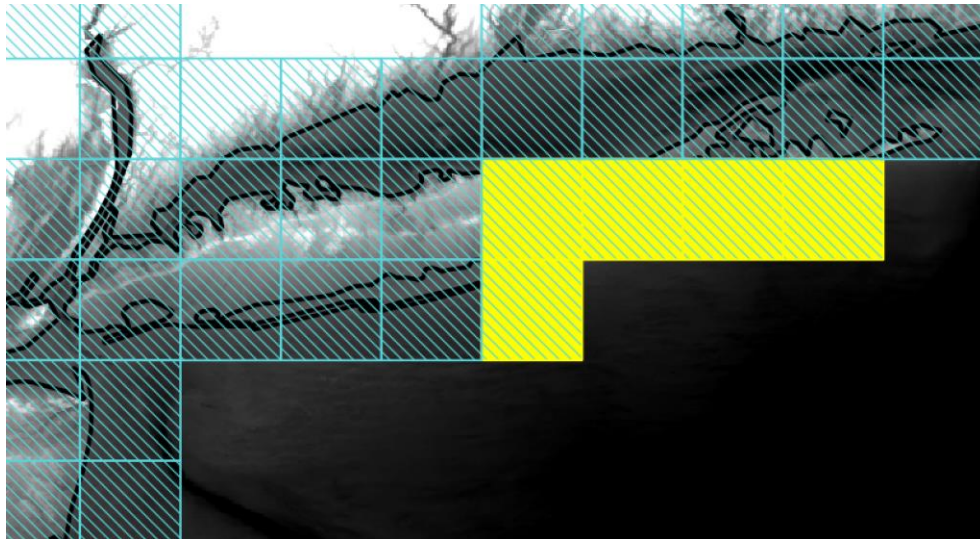

Figure 4 Raster data tiles (highlighted NCEI DEM + background GEBCO)
To generate the domain and size function, five (5) NCEI 1/9th of arc-sec Continuously Updated DEMs (Cooperative Institute for Research in Environmental Sciences (CIRES) at the University of Colorado, Boulder, 2014) in Shinnecock inlet are used along with 1 GEBCO DEM (GEBCO Bathymetric Compilation Group 2020, 2020) that covers the area of interest (Figure 4).